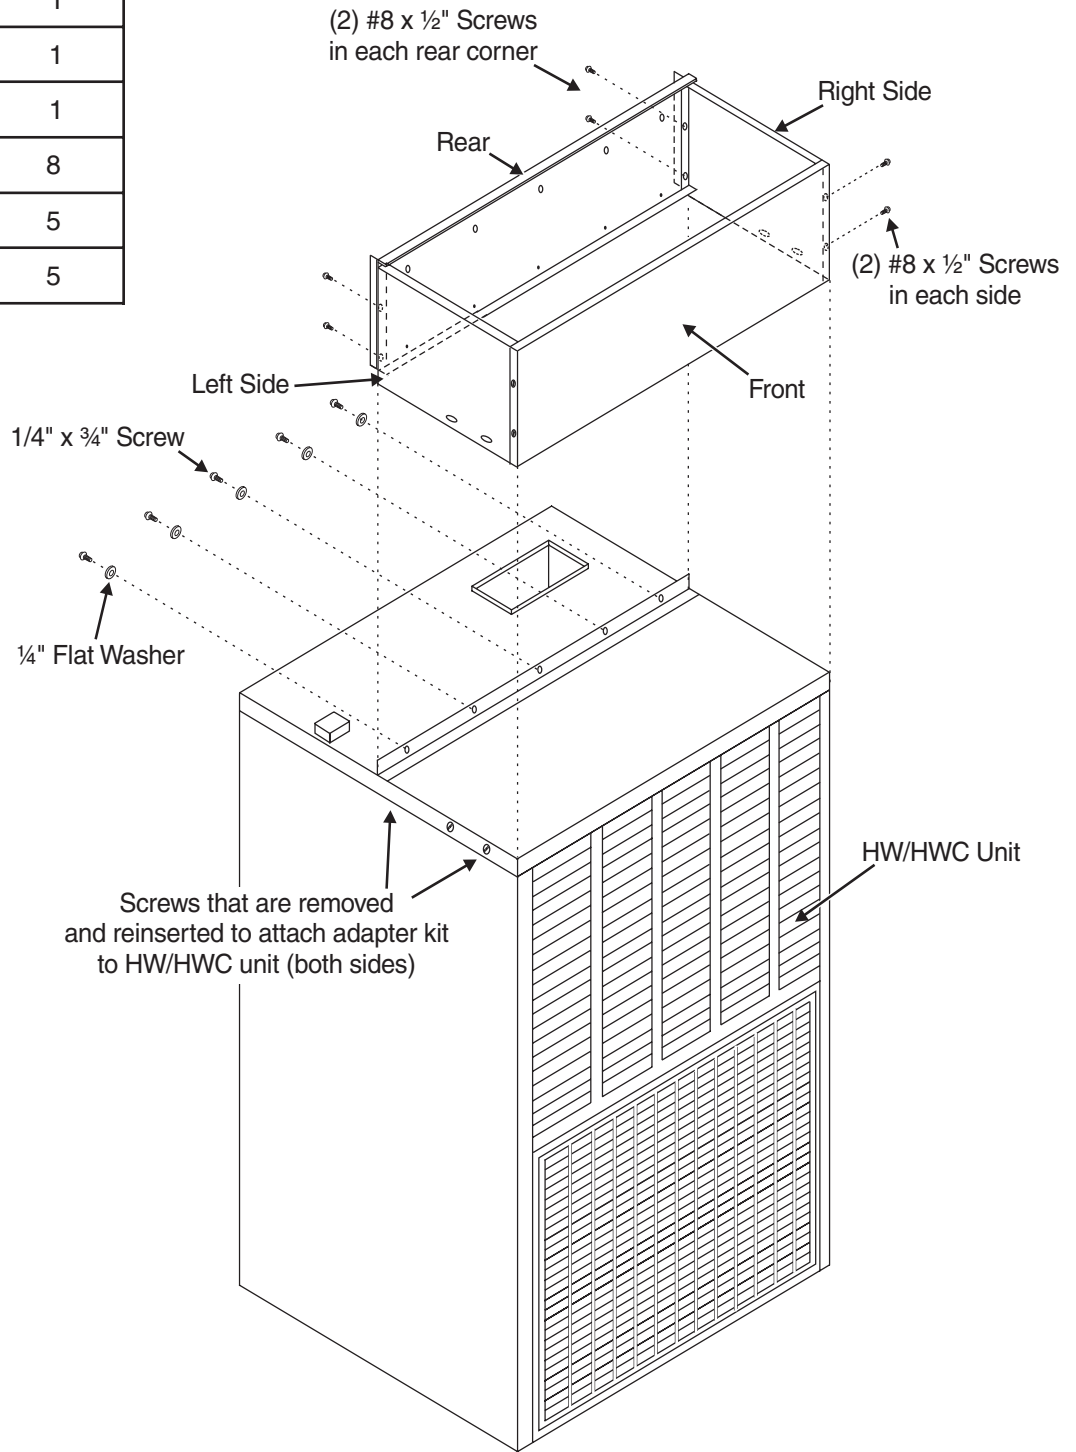

FIGURE 7-2 A242-1 Wall Sleeve Adaptor Kit Assembly
Once assembled, the A242-1 adaptor kit will form a rectangular box approximately 4-7/8" tall with approximately 7/8" overlapping the front and side of the top panel of the HW/HWC unit (see Figure 7-2 on page 7-9).
2. Place the adaptor kit on top of the HW/HWC unit. The five pilot holes positioned towards the bottom of the kit's rear panel should align with the five oval screw holes in the HW/HWC mounting bracket (see Figure 7-2).